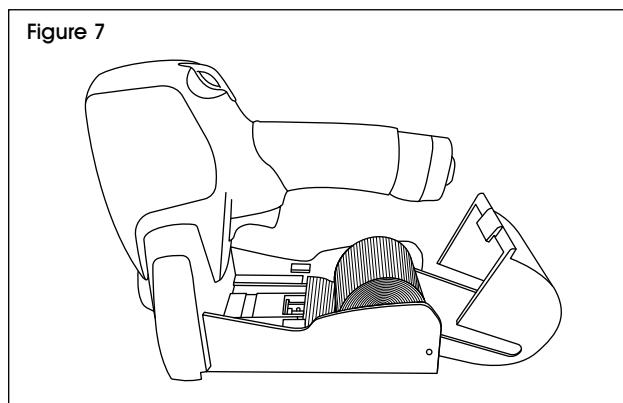

Figure 7
2. Place staple roll into magazine. Feed up to side guides. (See Figure 7)